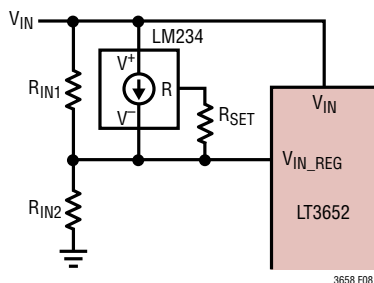

Figure 8. MPPT Temperature Compensation Network
In the circuit shown in figure 8,
As the temperature coefficient for V_{MP} is similar to that of V_{OC} , the specified temperature coefficient for V_{OC} (TC) of -78mV/°C and the specified peak power voltage ($V_{MP(25^\circ C)}$) of 17.6V can be inserted into the equations to calculate the appropriate resistor values for the temperature compensation network in Figure 8. With R_{SET} equal to 1000Ω, then: